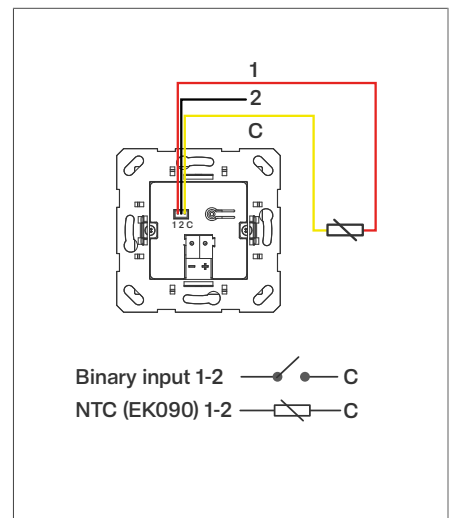

Fig. 6: Connection of binary inputs
- 3 Run the bus cable with the connection terminal through the frame and connect it to the back of the device (Fig. 6).